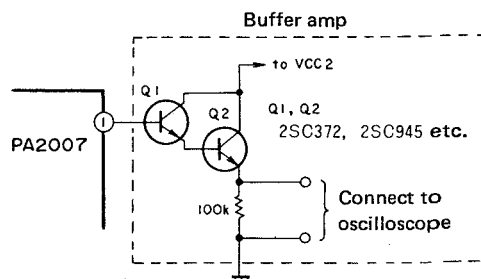
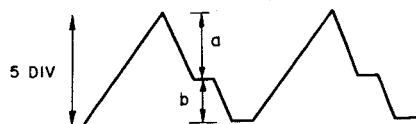

Fig. 11-3 Buffer amp connection
Fig. 11-4 Sawtooth wave adjustment
4. Connect the buffer amplifier to pin ① of IC1 PA2007 of the motor circuit P. C. board unit as shown in Fig. 11-3 and connect the output to an oscilloscope.
5. After the waveform shown in Fig. 11-4 appears on the oscilloscope, adjust the oscilloscope gain so the peak of the sawtooth waveform is at division 5. Then adjust VR1 (33 1/3 rpm) to $a:b = 2.7:2.3$ as shown in Fig. 11-3. (Be careful because noise enters easily.)
7. Connect an oscilloscope to pin ⑦ of PA2007 and check that the waveform is 55.5 Hz for 33 1/3 rpm and 75 Hz for 45 rpm.